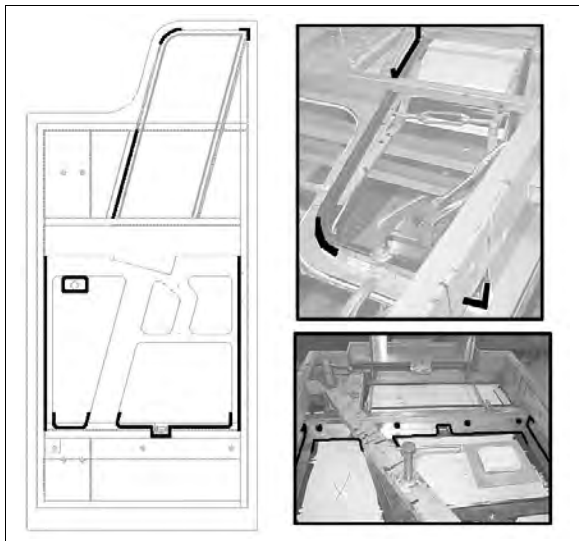

FIGURE 63: SEALANT APPLICATION
21. From the inside of the door, apply some sealant Sika 221 between door skin panel and frame and on welding spots as per Figure 63.